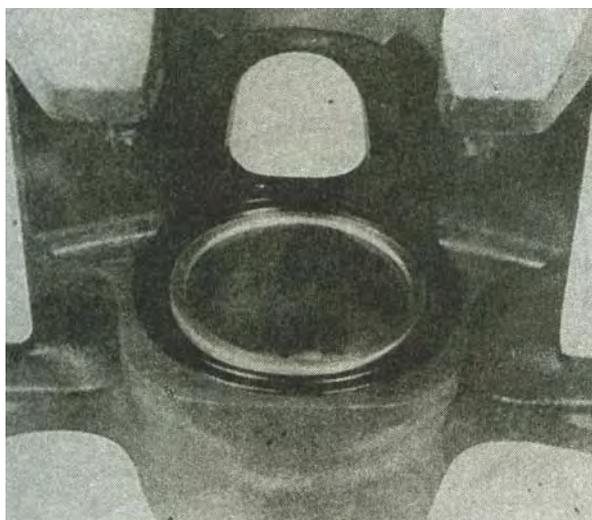

FIG.16-31
(3) Install piston into cylinder with hand, then install boot into piston groove. (FIG.16-31)